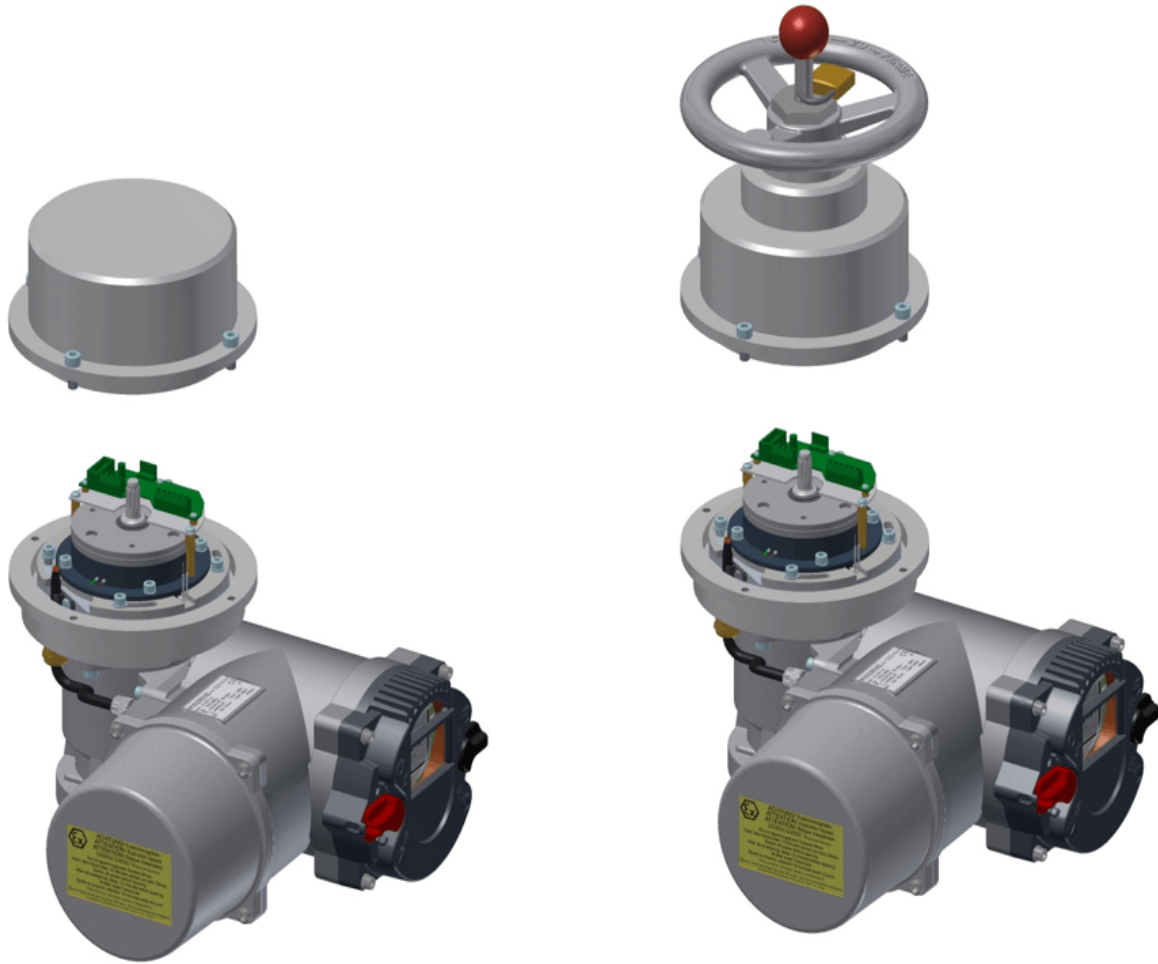

Figure 10: Cover removing
1. Remove cover according Figure 10, page 18